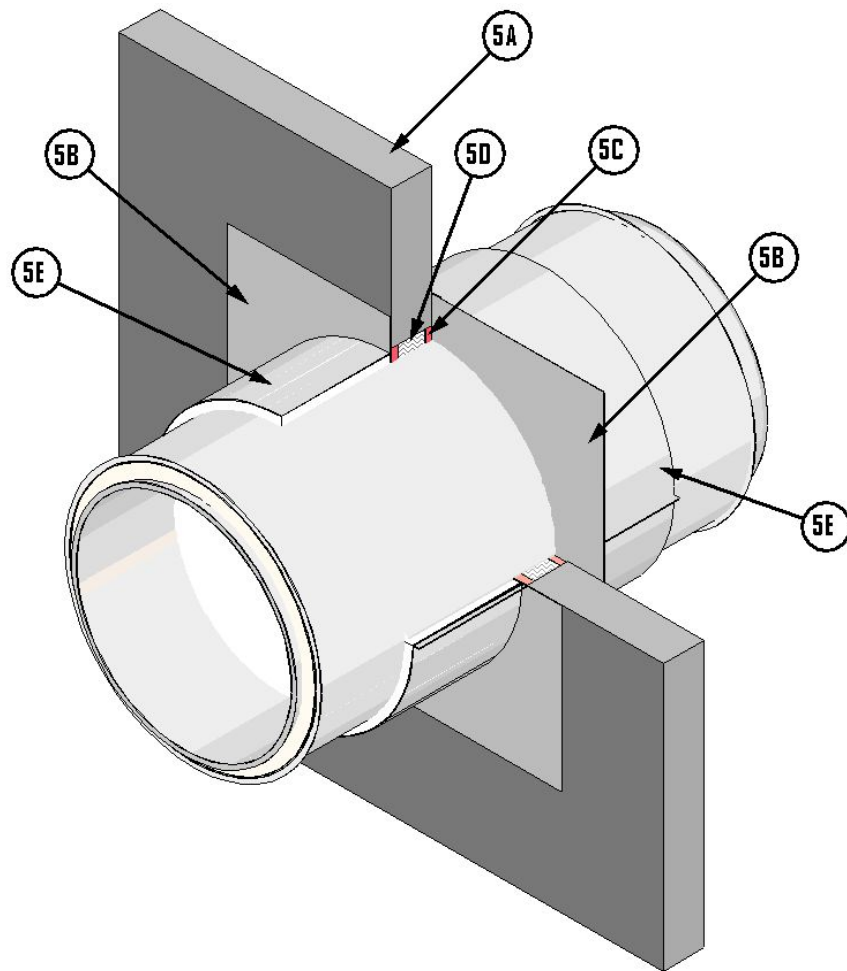

Figure 5. Wall Firestop
5. WALL PENETRATION FIRESTOP: When required to penetrate a fire-rated wall assembly, install the firestop system described in Items 5A to 5F (see Figure 5).